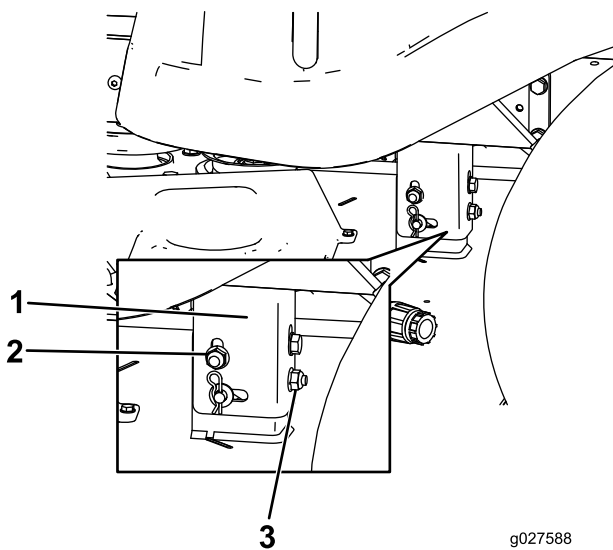

Figure 64
8. Raise or lower the left side of the mower deck by rotating the rear nut (Figure 64).
Note: Rotate the rear nut clockwise to raise the mower deck; rotate the rear nut counter-clockwise to lower the mower deck. (Figure 64).